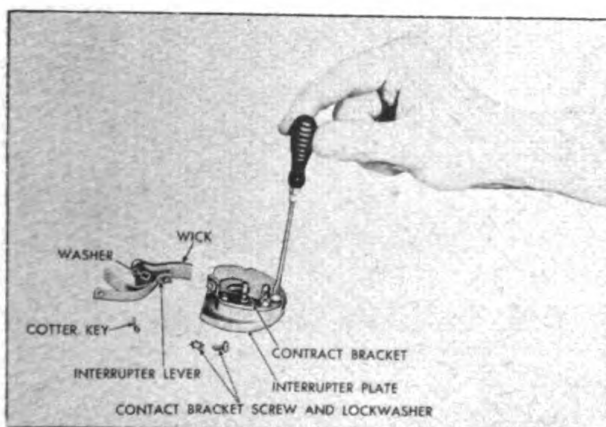
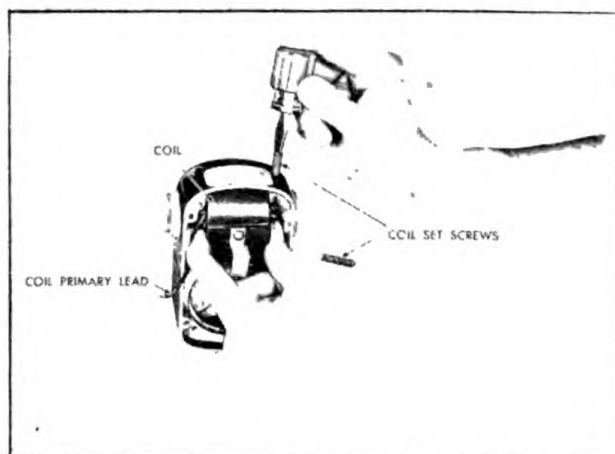

Figure 238. Disassembling Interrupter Assembly.
Figure 239. Removing High Tension Coil.
D. Disassemble the interrupter assembly by removing the interrupter lever cotter pin and washer, and pull out the interrupter lever. Figure 238.
E. To remove contact bracket, withdraw fastening screws and lockwashers Figure 238. Loosen coil setscrews on the outside top of the Magneto Housing and pull out high tension coil Figure 239.
D. Install High Tension Coil by sliding coil into the upper portion of the magneto housing. See Figure 239. Each end of the coil core is to rest on top of the magneto pole shoes in the magneto housing. The counter-sunk holes at either end of the coil core should be upright so as to allow the tapered end of the coil securing screws to engage the counter-sunk holes. Drive screws into holes provided on the outside top of the magneto housing. Securely tighten screws to assure a good electrical connection between the coil core and pole shoes. Apply a coat of shellac to the protruding end of each screw to prevent the entrance of moisture.
E. Assemble interrupter assembly by setting contact bracket on the boss of interrupter plate provided for this purpose. See Figure 238.